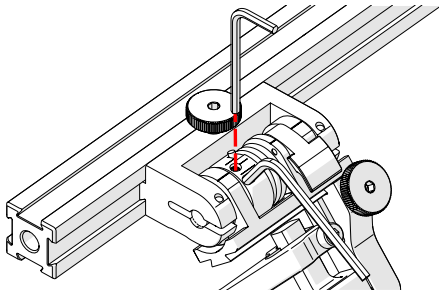

Fig. 115 - Insert hex tools
4. Place the 2 mm hex wrench into the force adjustment screw (Fig. 115).